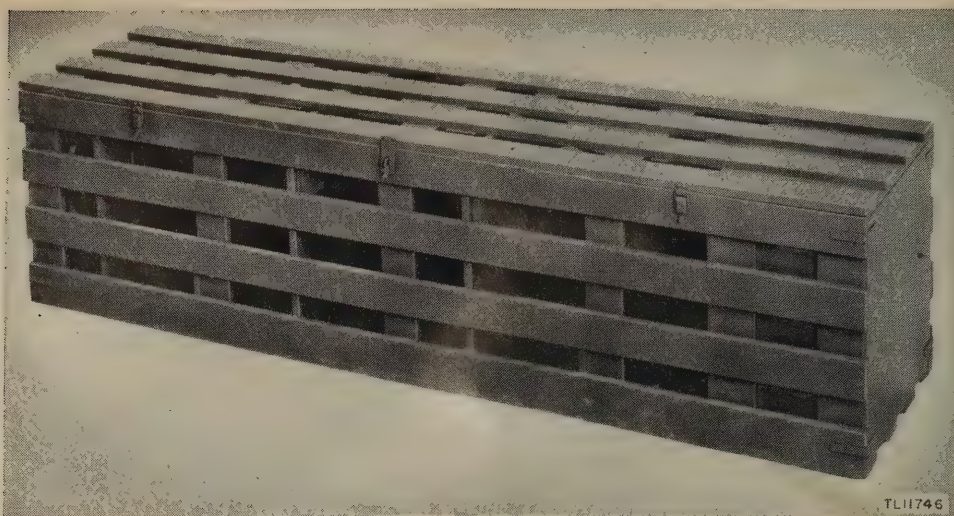

Figure 87. Crate for gasoline heater.
a. The gasoline heater is packed in a crate with three compartments (fig. 87).
- (1) Remove the spacing blocks from the crate and put the heater unit assembly, flange side down, in the center compartment of the crate.
- (2) Replace the spacing blocks.
- (3) In the left compartment place the fuel tank so that the gas filter is up and the mounting flange is toward the center compartment of the crate.
- (4) Place the circulating fan, cage up, in the bottom of the rear right-hand compartment.
- (5) Put the partition over the fan.
- (6) Pack the outlet louver assembly in the compartment over the fan.
- (7) Pack the fuel lines, junction boxes, switch, caulking compound, and loose hardware in the right front compartment.
- (8) Close the crate lid and fasten the catches.